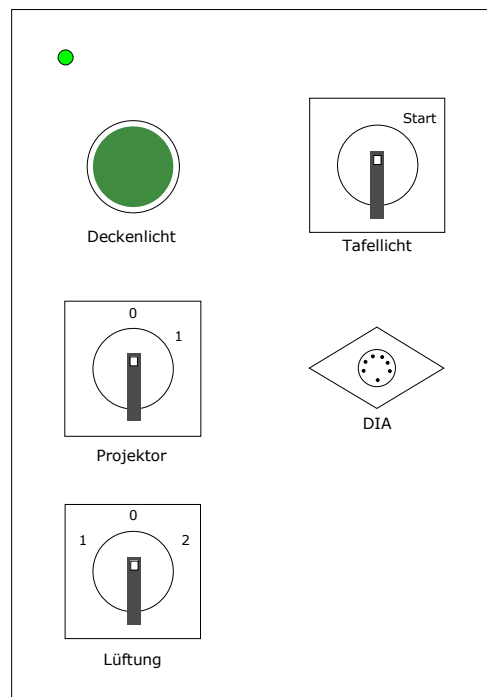

Figure 2.4: The control panel for the lecturer in the old lecture theatre HS EDV of Graz University of Technology.
- Figure 2.4 shows the control panel for the lecturer at the front of the old lecture theatre HS EDV.